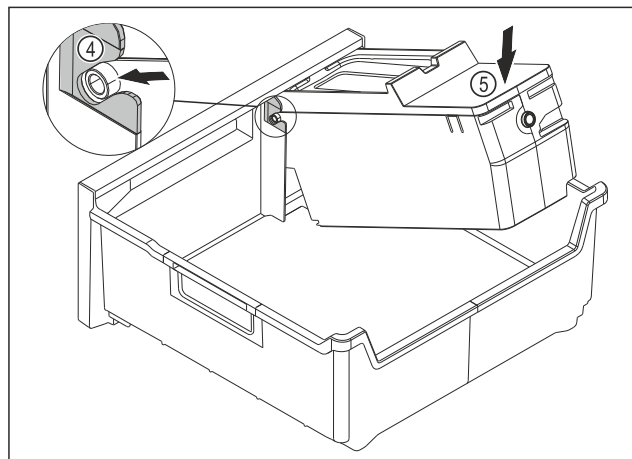

Fig. 89
- Installing the EasyTwist-Ice body: Push the axes for the EasyTwist-Ice body into the guides Fig. 89 (4).
- Press the EasyTwist-Ice body Fig. 89 (5) down at the back.